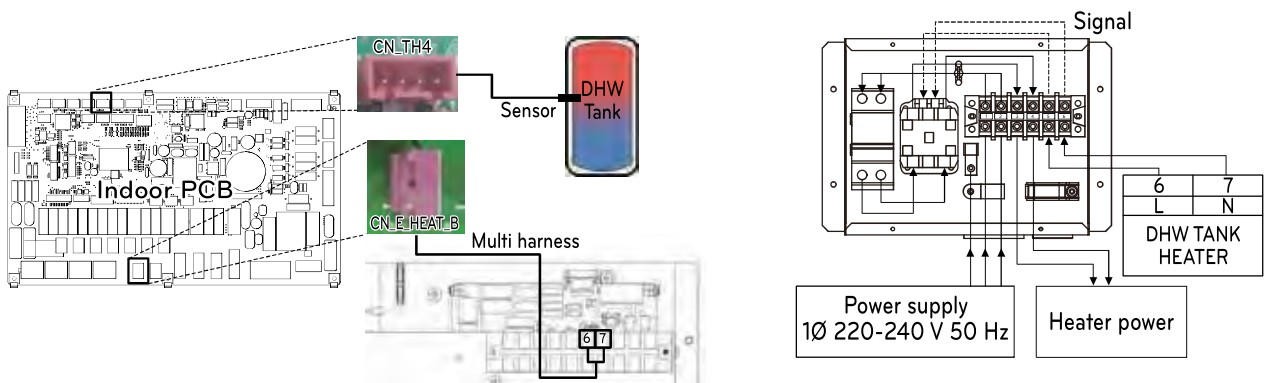

Fig. 1
Step 2. Connect Harness (Violet) of Main PCB assembly (TB1(6/7)) to 'CN_B_Heat_A' of the Main PCB like following fig. 1.
Step 4. Connect power supply to the DHW tank kit as shown fig. 1.